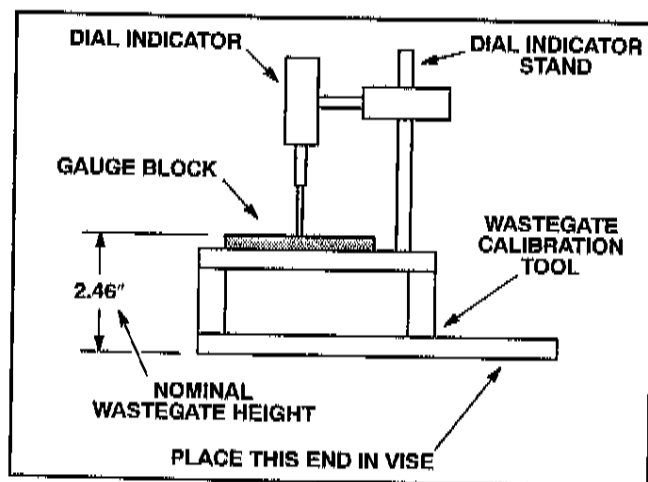

Figure 5.35-27. P/N Series 208372 Wastegate Calibration Setup
2. Zero outer dial (hundredths) on dial indicator. Record reading of tenths indicator with gauge block in place. The preload indicated by tenths indicator gives you nominal wastegate test height (see Figure 5.35-27).